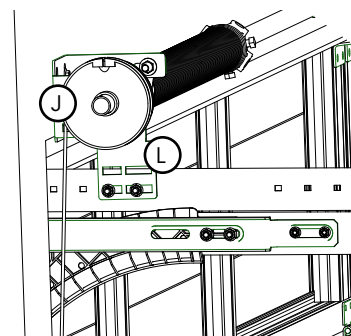

Fig: 3.6.2
- a) Lift the torsion bar assembly into position, resting both ends over the top of the horizontal tracks. Fig. 3.6.2.
- b) Ensure that the side bearing brackets (L) and cable drums (J) are situated on the outside of the horizontal tracks.
- c) Line up the spring anchor bracket (K) with the middle of the door, so that the cut corner is facing down.
- e) Secure the spring anchor bracket to the wall and the side bearing brackets to the tracks as shown in Fig 3.6.2.